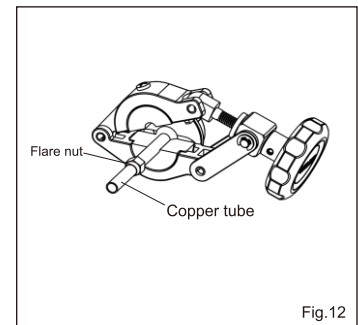

Fig.12
4.2 Open the expander body and take out the copper tube. (Fig.12)